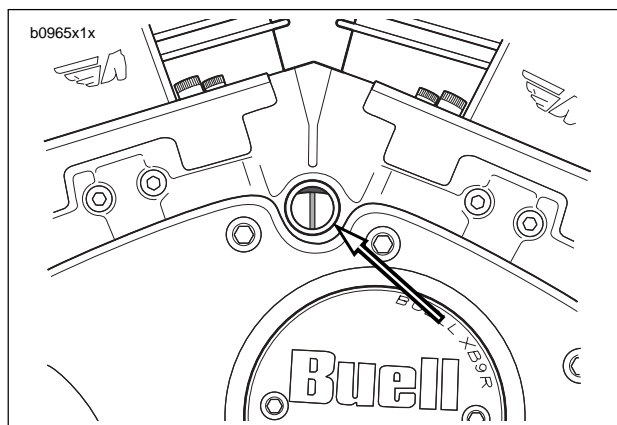

Figure 1-43. Correct Timing
11. See Figure 1-43. If the static timing is correct, the screen will switch to HIGH - 5 volts at the precise moment the timing mark exactly centers in the inspection window.